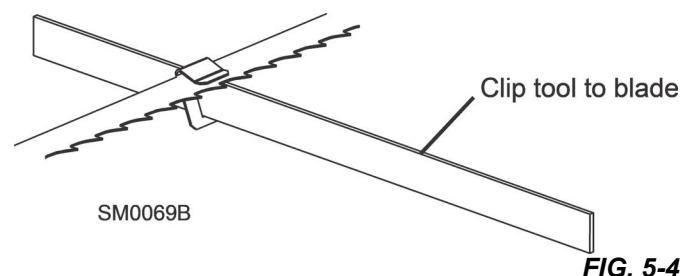

FIG. 5-4
2. Clip the alignment tool on the blade. See FIG. 5-4.